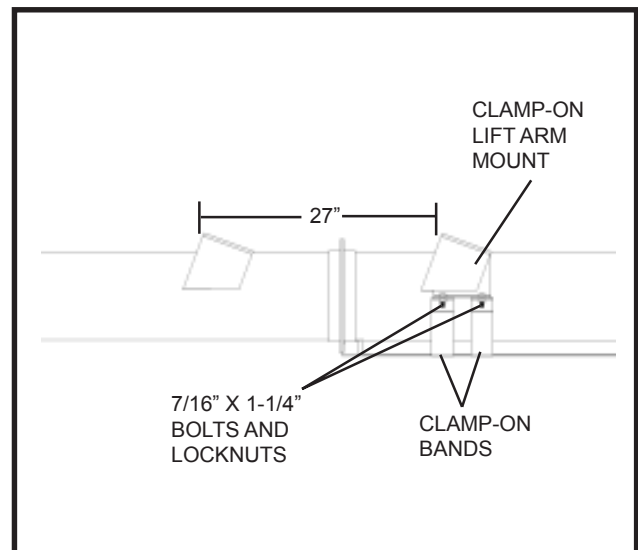

Figure No. 36
2. Attach the two bands to the lift arm mount using four 7/16" x 1-1/4" bolts and locknuts (see **Figure No. 36**).
3. Position the clamp-on mount a distance of 27" from the standard hopper lift arm mount located on the lower tube and tighten all bolts (see **Figure No. 36**).